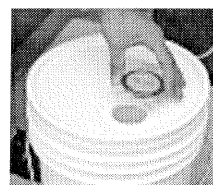

FIGURE 3
1. Place the Rieke fitment on top of the opening on the U5G cover. (fig. 3)